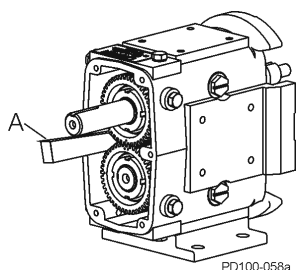

Figure 59 - Block Shaft Rotation
4. Use a wood or nylon block (Figure 59, item A) to keep the shafts from turning. If a block is not available, use rags to block the gears, or with one rotor on the shaft, block the rotor with a nylon dowel.